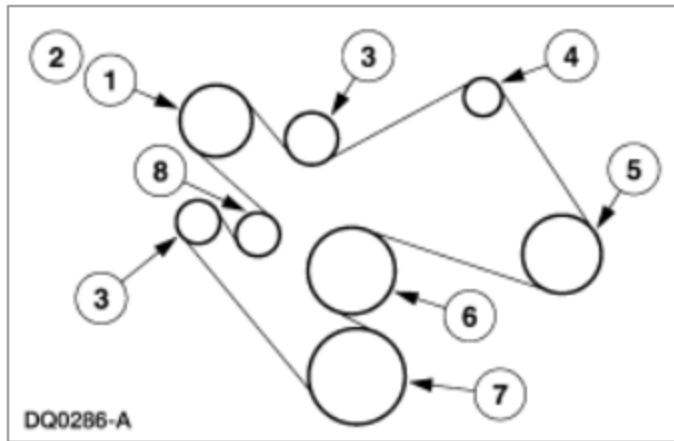

FIGURE 1 Single Alternater Setup
15. Reinstall your serpentine belt being careful to route it exactly the way it was. Refer to FIGURE 1 above if you are unsure. Tighten the pulley bolts with a wrench.